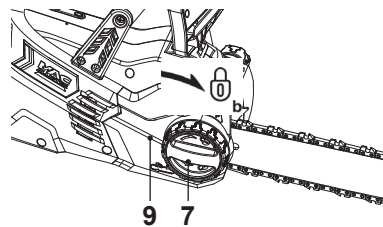

Fig. 11
5. Turn the locking wheel (7) clockwise to tighten the cover (9) completely (Fig. 11).